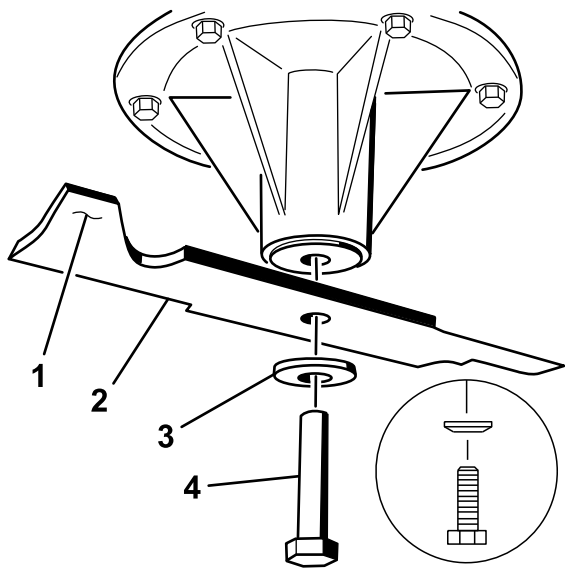

Figure 6
Important: The sail part of the blade (i.e., the turned up section) must face the inside of the mower (Figure 6).
1. Place the blade onto the spindle shaft (Figure 6).
2. Install the spring disk and blade bolt. The spring disk cone must be installed toward the bolt head (Figure 6). Torque the blade bolt to 85-110 ft-lb (115-150 N•m).